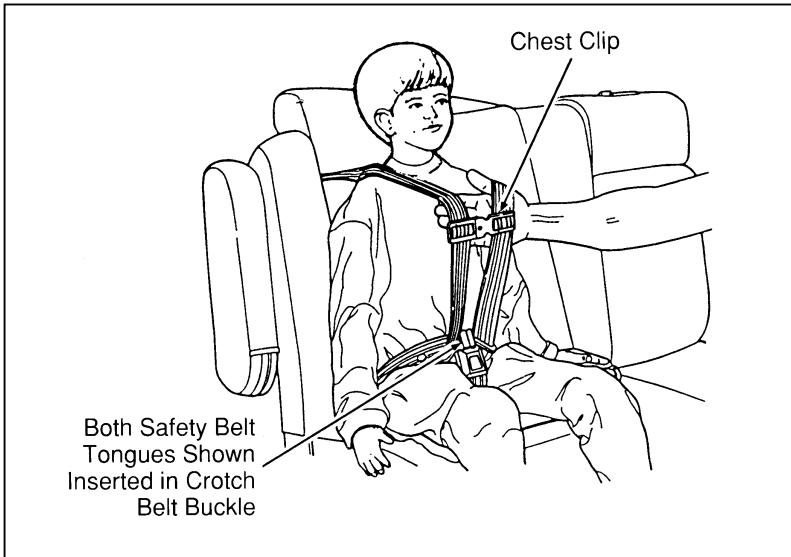

Figure 7: Checking for securely latched buckle and chest clip
- Pull the shoulder belts out to ensure that the crotch safety belt buckle and chest clip are securely fastened. Refer to Figure 7.
7. Before placing the child into the child seat, forcibly tilt the seat from side to side and in forward directions to make sure that the seat is securely held in place. See Figure 7.